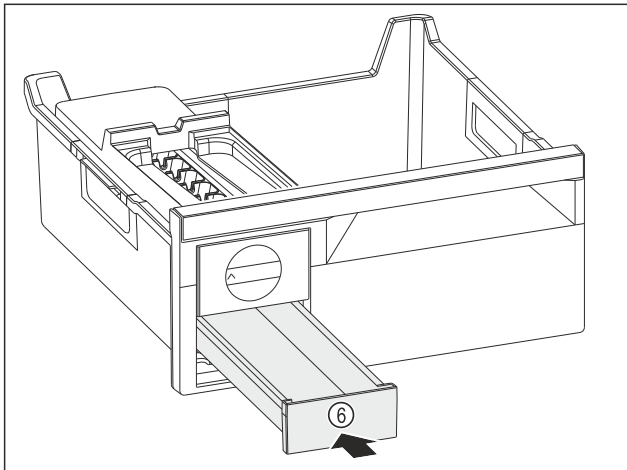

Fig. 217
- Insert the ice cube drawer Fig. 217 (6).